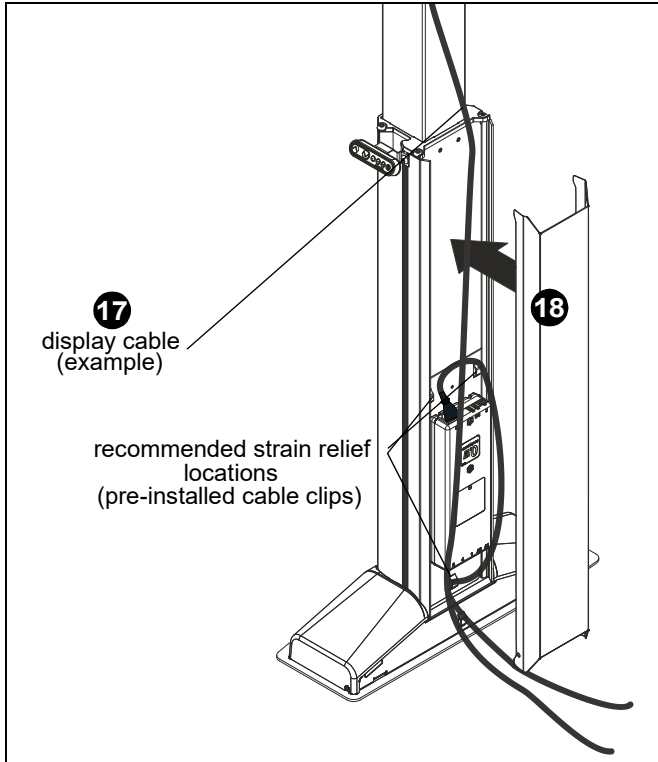

Figure 10
17. Attach display and signal cables to power source. Use cable ties (K) to route as necessary. (See Figure 10)
18. Reinstall back cover to column assembly (T). (See Figure 10)